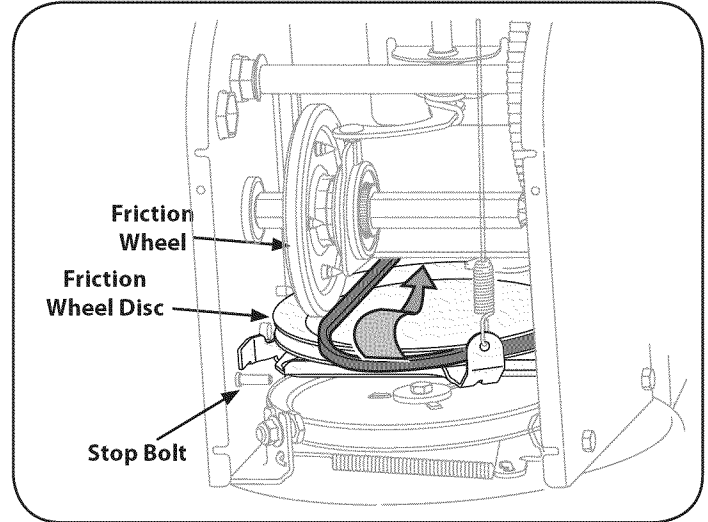

Figure 30
- Back out the stop bolt to increase the clearance between the friction wheel disc and friction wheel. See Figure 30.
- Slip the drive belt off the pulley and between friction wheel and friction wheel disc. See Figure 30.